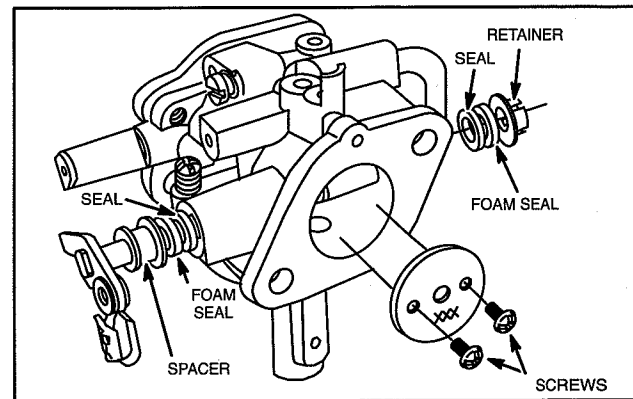

Fig. 29 – Remove Throttle Shaft
- b. Remove throttle shaft and spacer, Fig. 29.